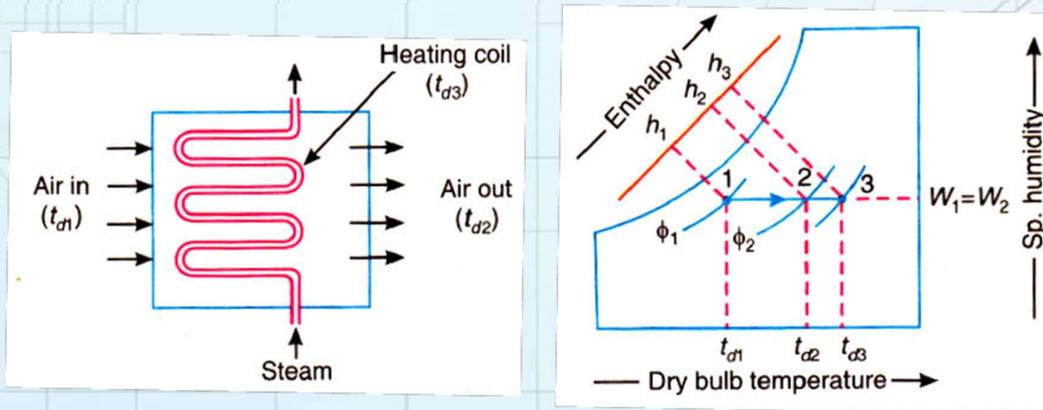

Fig.2.4 – Sensible heating process
- ▶ Let the air at temperature t_{d1} passes over a heating coil of temperature t_{d3} as shown in Fig. 2.4.